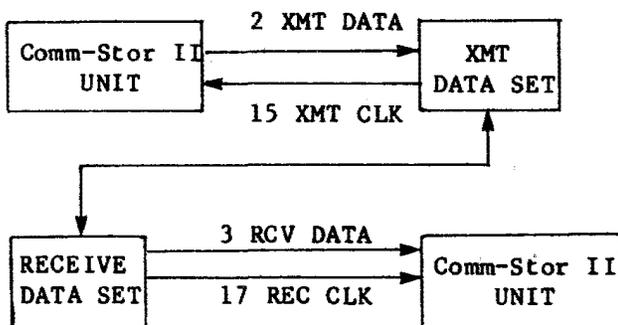

Fig. 5 - Clock and Data Signal Flow
3.16 In isochronous operation, there is one master clock (the transmitting data set clock) and all other clocks are synchronized with it. The Comm-Stor II unit transmits its clock signals to the data set via Pin 15 and receives its clock signals from the data set via Pin 17 of the cable. Pin 2 transmits data to the data set while Pin 3 receives data from the data set. Fig. 5 provides an illustration of the clock and data signal flow between two Comm-Stor II units with the unit on the left transmitting data to the unit on the right.